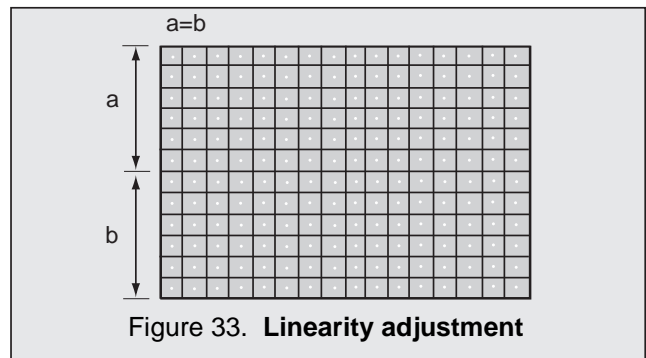

Figure 33. Linearity adjustment
2. Adjust linearity data "V-C" so that interval of "a" is same as "b" (a=b). (See Fig. 33)